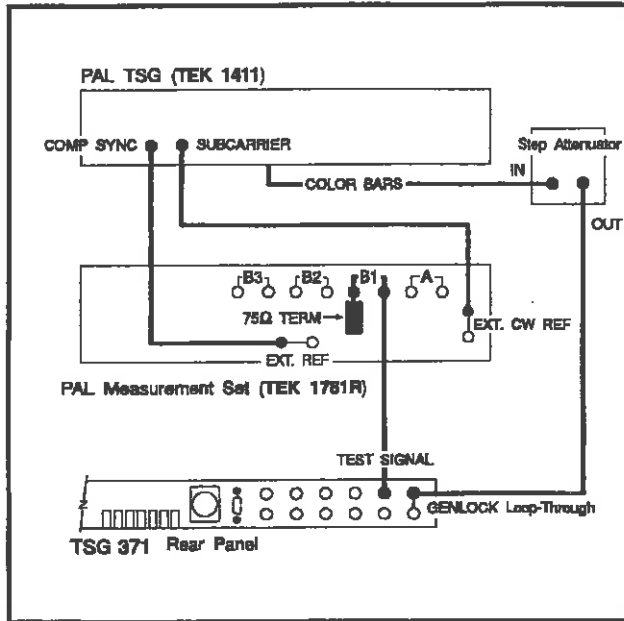

Fig. 5-1. Checking Sync Lock Jitter.
- a. Connect test equipment as in Fig. 5-1.